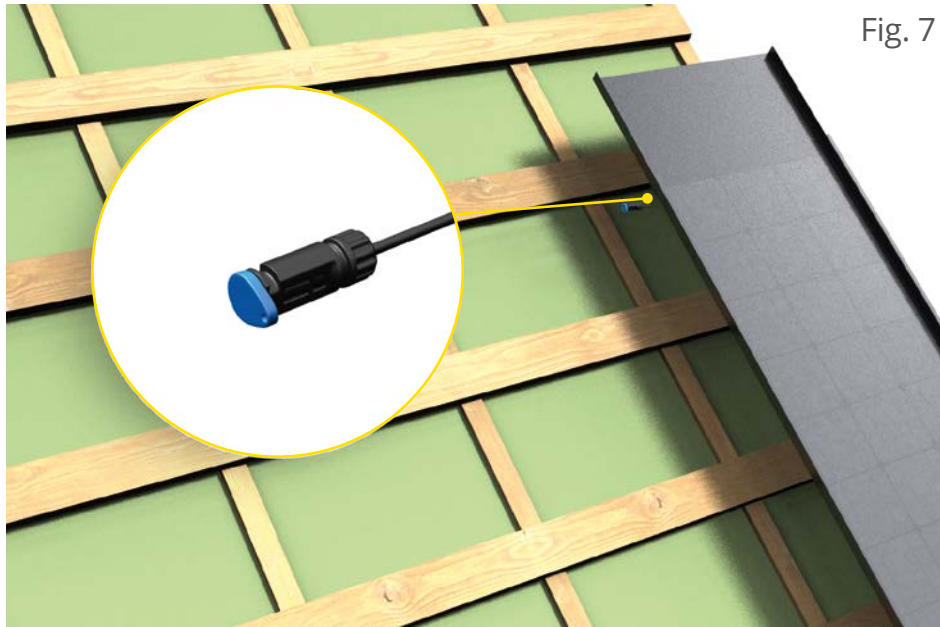

Fig. 7
3.5 The cable dust caps, which provide protection from moisture and the outside environment, **must be removed immediately prior to making the click connection between the MC4 connectors** (Fig. 7).